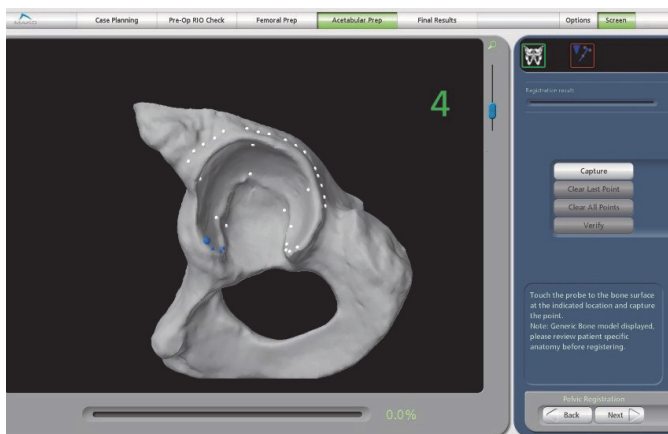

Figure 23. Pelvic Registration Pattern
2. Using the probe, touch the surface of the bone in the required areas of the acetabulum and outside the superior acetabular rim identified in the software (Figure 23).